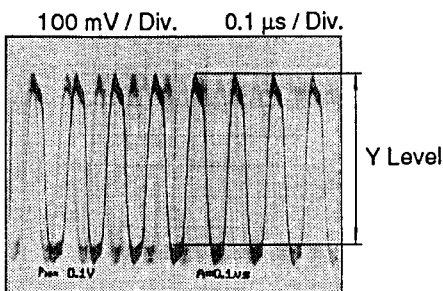

FIGURE 1 - RECORDED WAVE FORM
4. Measure the Y recording voltage of the CP422 with oscilloscope (PROVE 1:10). (Refer to Figure 1)